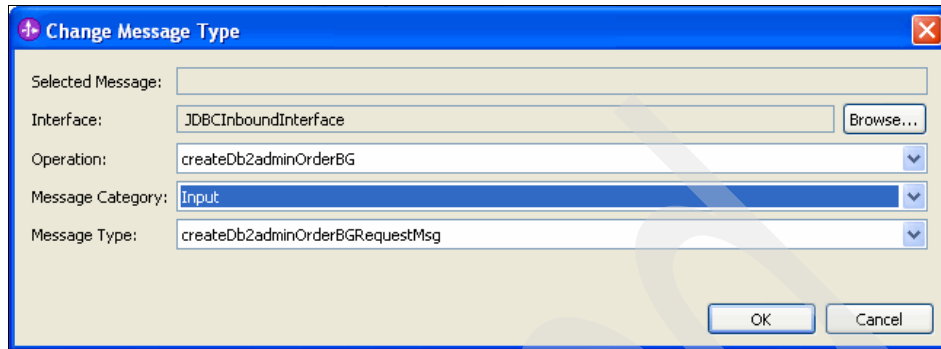

Figure 6-94 Change message type
5. In the Change Message Type window (Figure 6-94), click **Browse**, and for Interface, select **JDBCInboundInterface**.